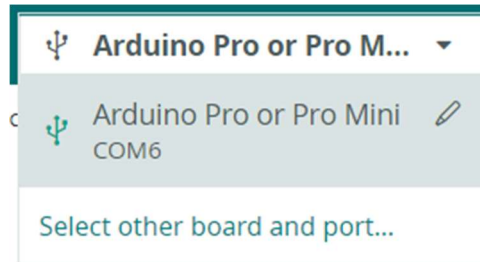
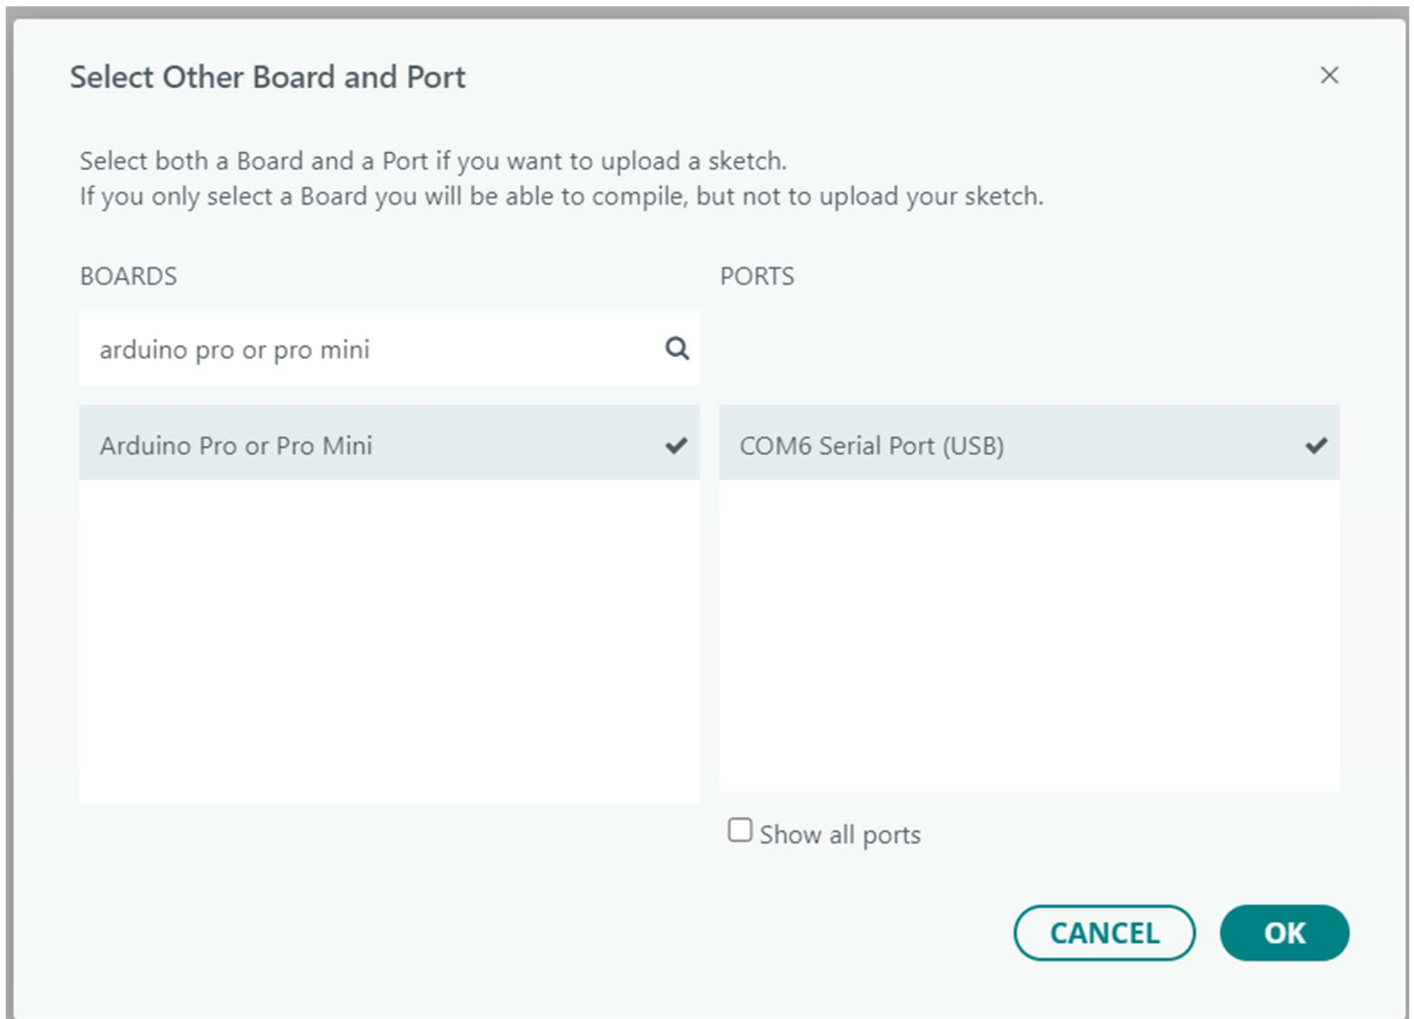
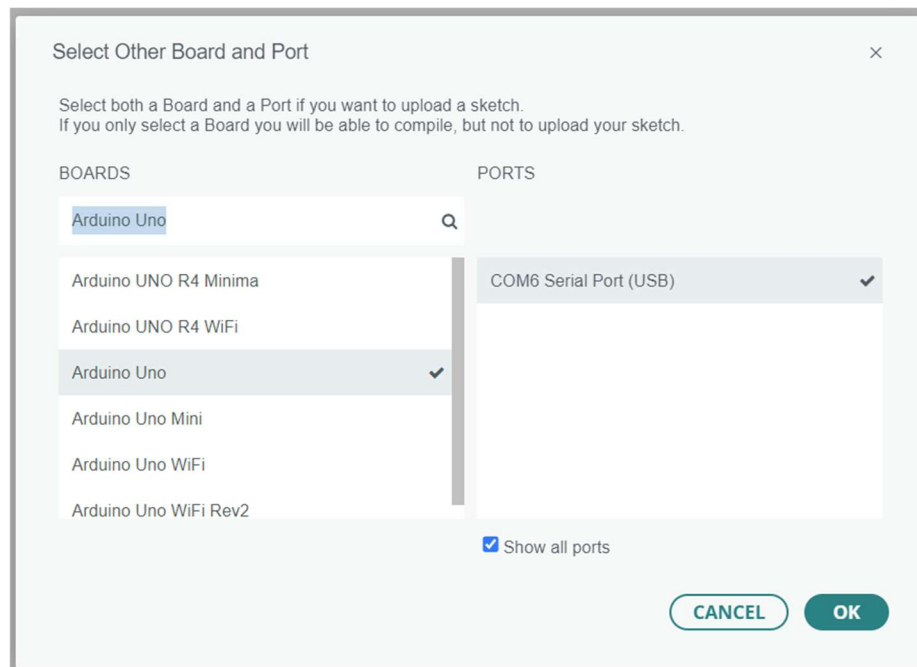

Figure 12: Select other board and port...
Figure 13: "Arduino Pro or Pro Mini" board selection for the Nano Flip 3V3.
Figure 18: Incorrect board selection.
- **Board selection:** In the “Select other board and port...” option (Figure 12), in the “BOARDS” search, type and then select “Arduino Pro or Pro Mini”, as shown in Figure 13. **NOTE:** this selection can also be done under the “Tools” and “Board:” option.
Solution: One possible cause of this error message is incorrect board selection. As an example, in Figure 18 the “Arduino Uno” board was selected, which will not work with the *Nano Flip 3V3*. The solution to this is to select the correct board, which is “Arduino Pro or Pro Mini” as shown in Figure 13.